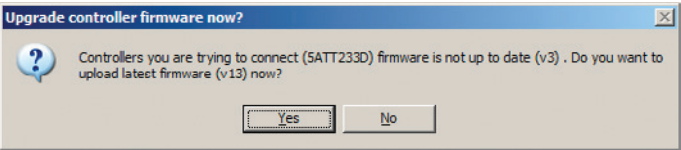

Figure 36. Dialog, asking whether to update firmware.
1. Answer"Yes" when asked about update dialog is shown in Figure 36. "Firmware Upgrade" window will appear. Click "Upgrade Firmware" button: